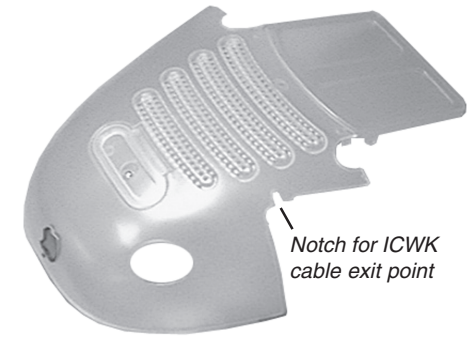

Figure 2b
5. Create a quarter inch diameter notch in the bottom cover as shown in Figure 2b using a round file or other suitable tool.